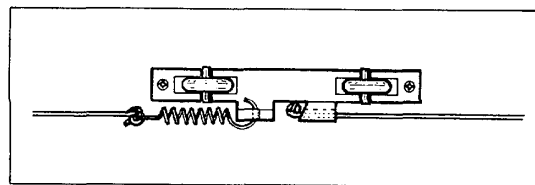

FIGURE 5-10. NYLON CABLE (ATTACHMENT TO PEN BLOCK)
c. Attach free end of tension spring to the hook on pen block. Insert knotted end of new nylon cord assembly in groove of pen block. See Figure 5-10.